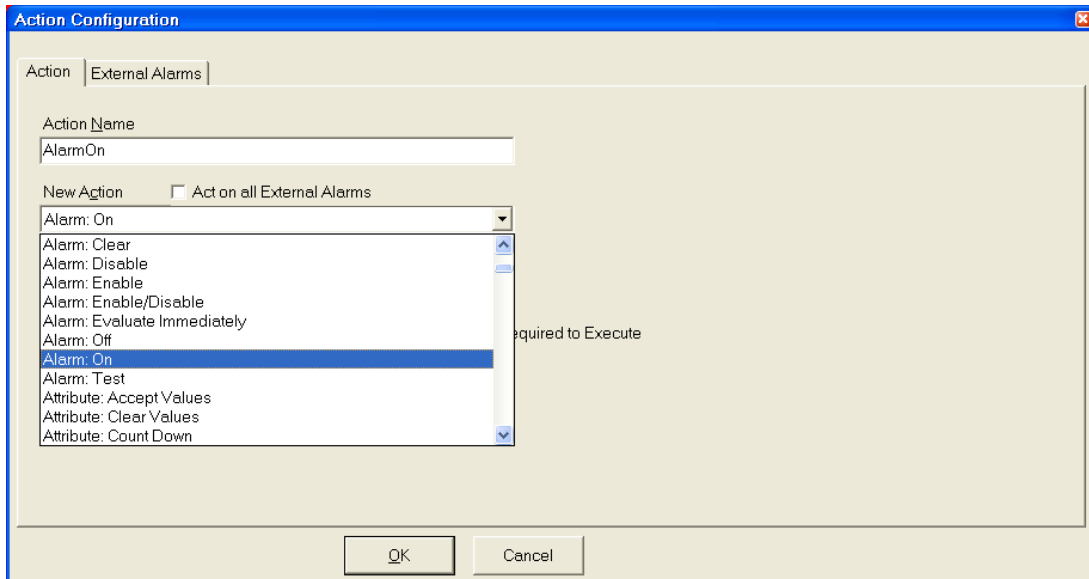

Figure 30. Action—Alarm: On.
- 2.1 In the I/O Device section, select the device containing the relay you would like to trigger (*Part 1 in Figure 30*).
3. In the Digital Output section, select the relay of the eight that you would like to trigger (*Part 2 in Figure 30*).
4. If you would like the relay to remain triggered for a minimum amount of time, enter the amount of time (in milliseconds) (*Part 3 in Figure 30*).
5. Determine what you need for the Output State (*Part 4 in Figure 30*).
6. If you want the program to ignore all further digital inputs on the selected terminal until the specified Minimum Pulse Width time has expired, leave the checkbox for Retriggerable blank (*Part 5 in Figure 30*).
7. If you want an action to be able to reset your relay, check the box for Reset on Clear Alarm (*Part 6 in Figure 30*).